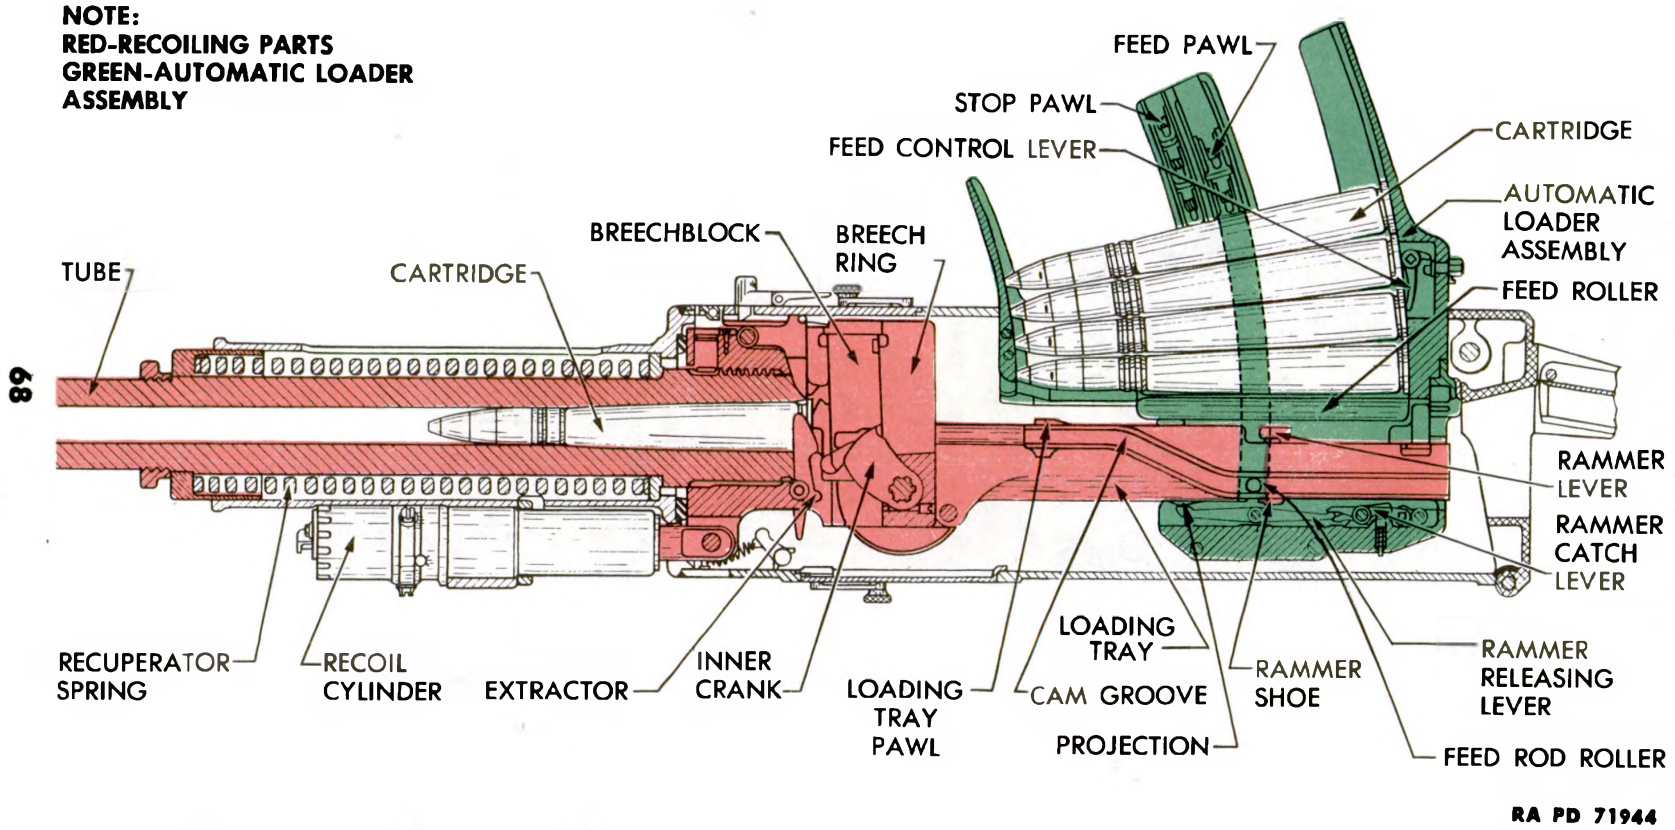

Figure 44 – Automatic Firing Cycle – Sixth Stage – Cycle Completed, Gun in Act of Firing
(7) As the breechblock reaches its uppermost position, the projection on the right inner crank contacts the beveled end of the check plunger, moving the plunger to the left, releasing the inner cocking lever, and permitting the firing pin to be thrust forward by the firing pin spring. The cartridge is fired, starting the cycle over again. Figure 44 shows the position of the parts at the instant before the cartridge is fired.